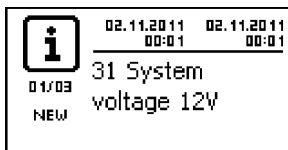
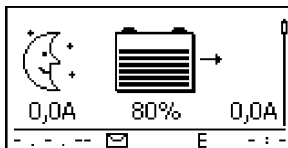

Fig. 5: Event message with the detected system voltage (in the example: 12 V)
Fig. 6: Basic setting of the status display
2. ➤ Switch on the external battery fuse: Insert the fuse insert into the fuse holder (safety fuse) or switch on the DC line circuit breaker. The controller automatically starts operation and, after a few seconds, displays the detected system voltage (= battery voltage) in an event message (Fig. 5).
3. ➤ Note the system voltage displayed in Fig. 5.
4. ➤ Press 'ESC' to confirm the event message. The basic setting display appears (Fig. 6).
6. ➤ If Fig. 5 and Fig. 6 are not displayed then check the installation and if necessary correct the error using ⚡ 15, p. 126 et seqq.